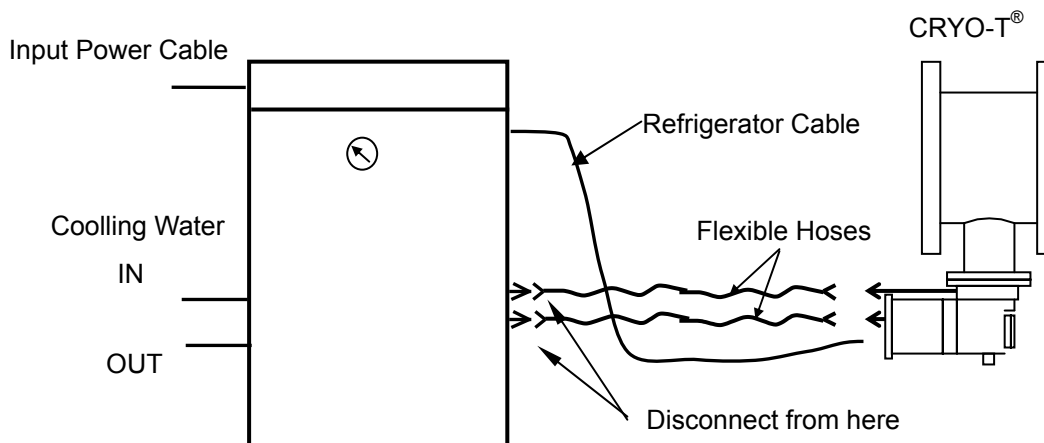

Figure 6-3 **Disconnecting Flexible Hose**
3. Right after shutdown of the system, disconnect the helium SUPPLY and RETURN flexible hoses at rear of the compressor unit (see Figure 6-3).